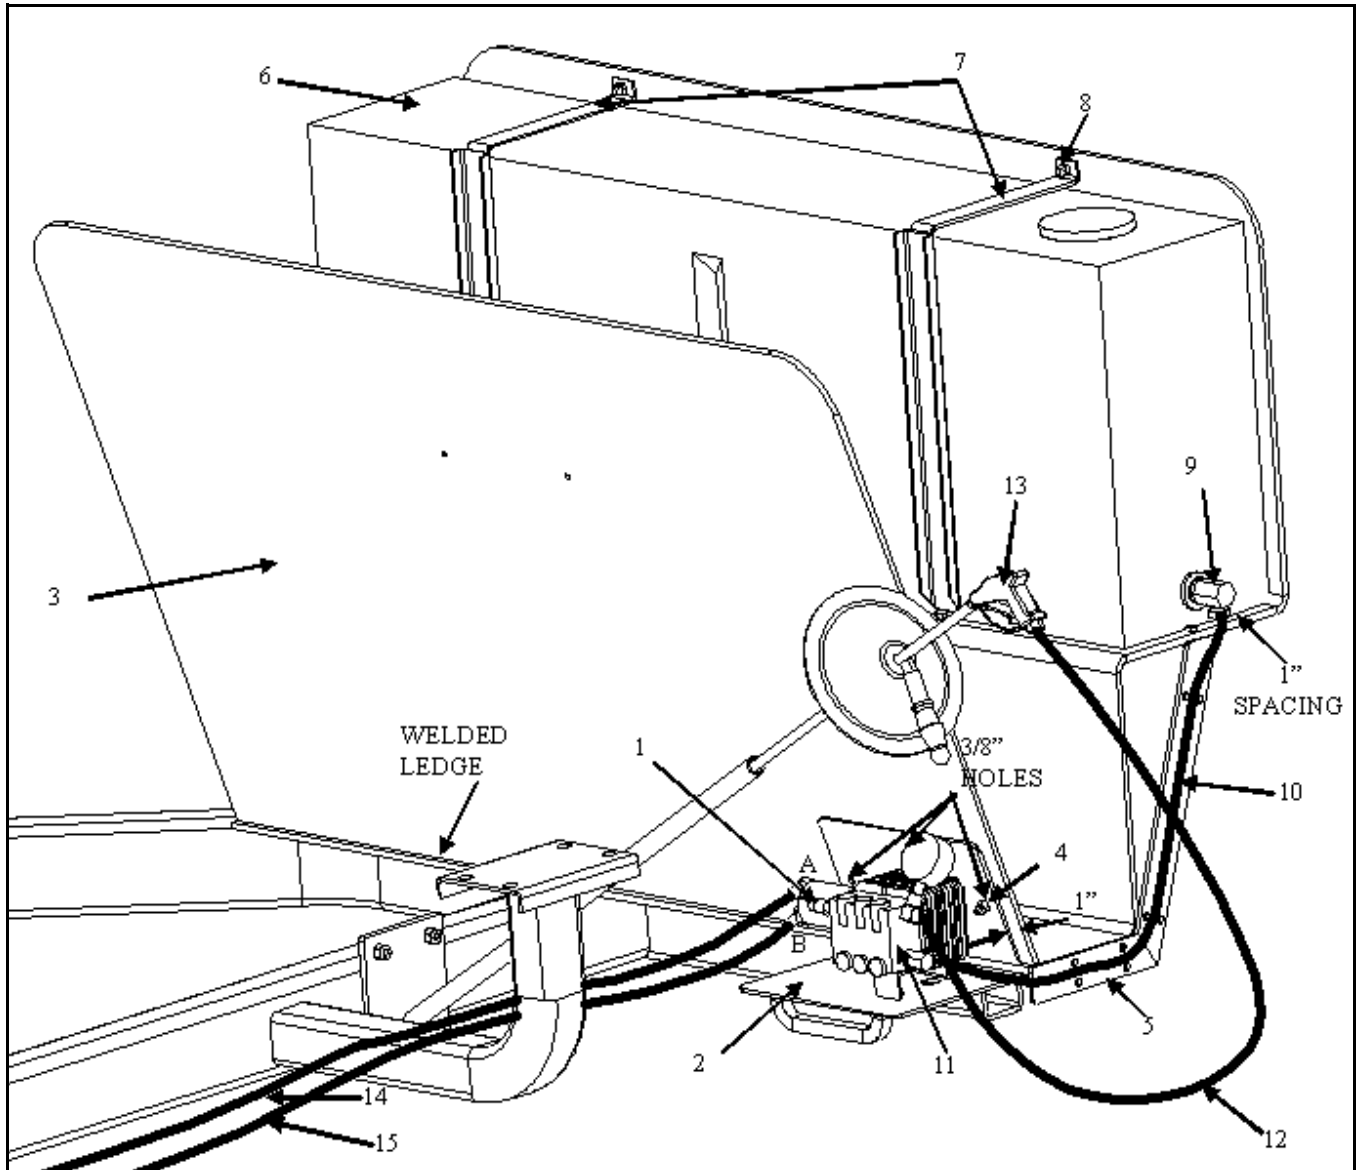

Figure 1.4 Water Spike Pump and Tank Assembly
5. Install the relief valve (1) on the pump (Figure 1.4).
6. Place the pump/motor mounting bracket (2) against the post bin (3) leaving a 1" space from the edge with the rounded bend of the mounting bracket (2) resting on the welded ledge. Mark the position of the holes. Using a 3/8" drill bit, drill out the three holes (Figure 1.4).
7. Attach the mounting bracket (2) to the post bin (3) using three $3/8"$ x $1-1/4"$ hex bolts (4) and nuts (Figure 1.4).
8. Mount the motor/pump assembly to the bracket using two M8 x 1 x 20 GR8 bolts (15) and two $5/16"$ flat washers (16) (Figure 1.4).
9. Position the hose protector (5) along the edge of the post bin (3) and mark the position of the holes. The top mounting bracket on the hose protector (5) should sit flat against the bottom of the post bin (3), and the inside edge should be flush with the edge of the post bin (3). Drill the two $3/8"$ holes (Figure 1.4).
10. Fasten the hose protector (5) to the post bin (3) using two $3/8"$ x $1-1/4"$ bolts.
11. Insert the 90° elbow fitting (9) into the tank (Figure 1.4).
12. Place the tank (6) on the post bin leaving approximately 1" between the edge of the bin and the tank. Position the tank straps (7) over the tank so they cover the 2 outer recessions in the tank. Mark and drill the 4 holes using a 3/8" drill bit. Make sure that the straps are positioned to hold the tank on tight (Figure 1.4).
13. Using four 3/8" x 1-1/4" bolts and nuts (8), fasten the tank (6) to the post bin (3) (Figure 1.4).
15. Attach the 1/2" x 34" hose (10) to the water tank (6) and the intake of the pump (11). Fasten the hose (10) to the hose protector (5) (Figure 1.4).
16. Attach the 1/4" x 120" hose (12) to the wand (13) and the output of the pump (11) (Figure 1.4).
17. Attach the 3/8" x 78" hose (14) to the top 45° elbow fitting on the single spool valve and the other end to fitting A on the hydraulic motor. Attach the 3/8" x 80" hose (15) to the bottom 45° elbow fitting on the single spool valve, then attach the other end to fitting B on the hydraulic motor (Figure 1.4).